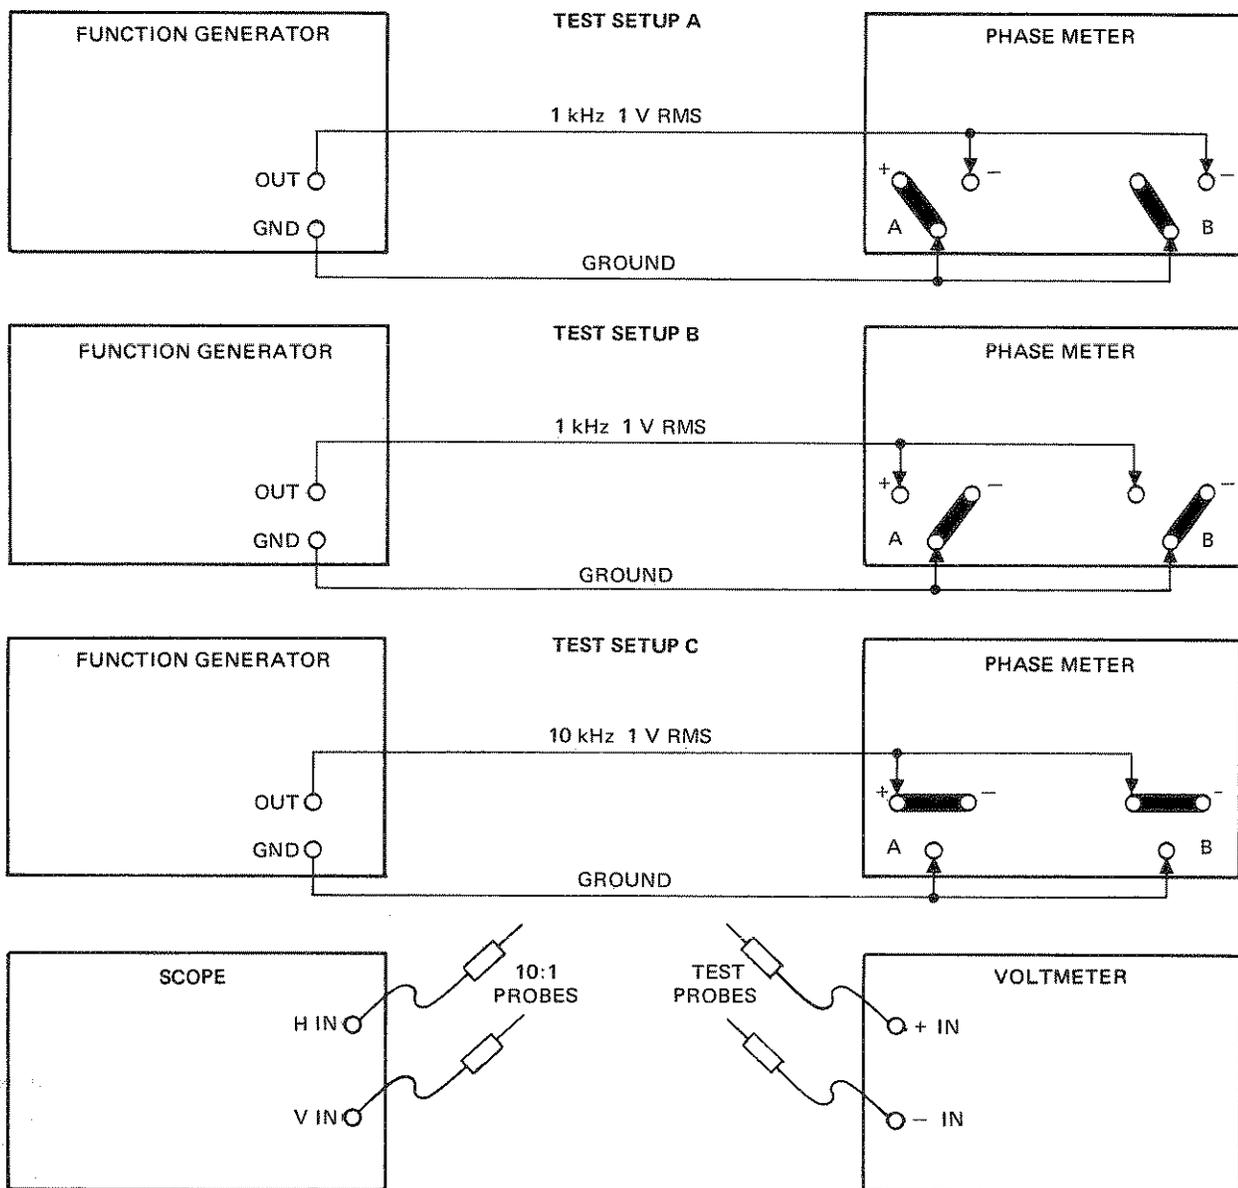

Figure 4-1. Calibration Set-Up
1. Connect the Model 750 Phase Meter in the test set up illustrated in Figure 4-1[A].
4. With equipment connected as shown in Figure 4-1[A]; hold CALIBRATE switch down (000.0/−180.0) and adjust 000.0 ADJ R81 for 000.0 plus or minus 1/2-count.
26. Connect a 1 kHz sine wave, 10 mV rms (28 mV p-p), into each input (Figure 4-1[A]).
37. Apply a 10 mV rms sine wave, 80 kHz, into both channels, using the test configuration shown in Figure 4-1[A].
41. Apply a 1 mV rms sine wave to both inputs, using the configuration shown in Figure 4-1[A] and, while watching the digital readout, vary the frequency from 1 kHz to 10 kHz. Record the reading at 1 kHz and the reading at 10 kHz. Determine the difference between the two readings, taking into account the polarities indicated, and record this as the "error span".
44. Set both VOLTS RMS selectors to .3-300, and apply a 1 kHz 7 V rms sine wave to the positive input terminals as shown in Figure 4-1[B]. Connect the probes of a dual channel scope, with lissajous capability, between the plus input terminal and test point TP1 of Channel A.
47. Apply a 10 kHz, 10 mV rms, sine wave to both inputs as shown in Figure 4-1[C]; and set VOLTS RMS selectors to .001-2.
51. Set both VOLTS RMS selectors to .3-300, and apply a 7 V rms 25 Hz sine wave to both inputs as shown in Figure 4-1[C].
58. Check plus and minus full scale calibration on both RANGE selections by applying the same sine wave, 1 kHz at 1 V rms, to both inputs as shown in Figure 4-1[A].